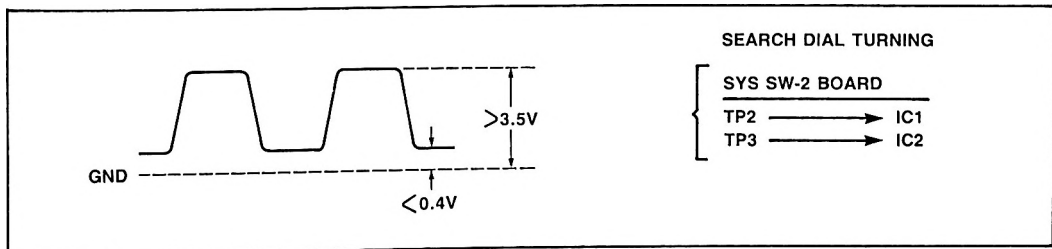

Figure 6
2. When IC1 or IC2 has been replaced (and R5 or R6 replaced), the specification in Figure 6 must be met.